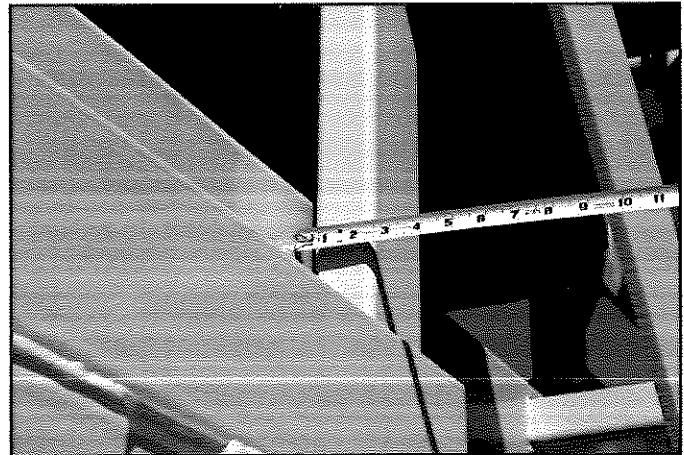

Figure 129
3. Measure between the stinger tube and main conveyor lower angle (Figure 129) to be certain both sides are equal. If they are not equal, adjust support rollers. Extend stinger conveyor past the support rollers to remove weight from rollers. Loosen bolts and slide assemblies the required distance on slotted stand. Tighten bolts. Repeat on other side of conveyor, and repeat procedure on second set of support rollers. Retract stinger conveyor and re-measure to be certain both sides are equal.
4. Measure the clearance between the secondary rollers and the main stinger tube. There should be no more than 1/4" on each side. If clearance is greater than 1/4" each side, shim accordingly. Shims can be ordered through Superior Industries Parts department at (320)-589-2406. Part numbers are 10-02795 for a 1/8" plate, or 10-02794 for a 1/4" plate.